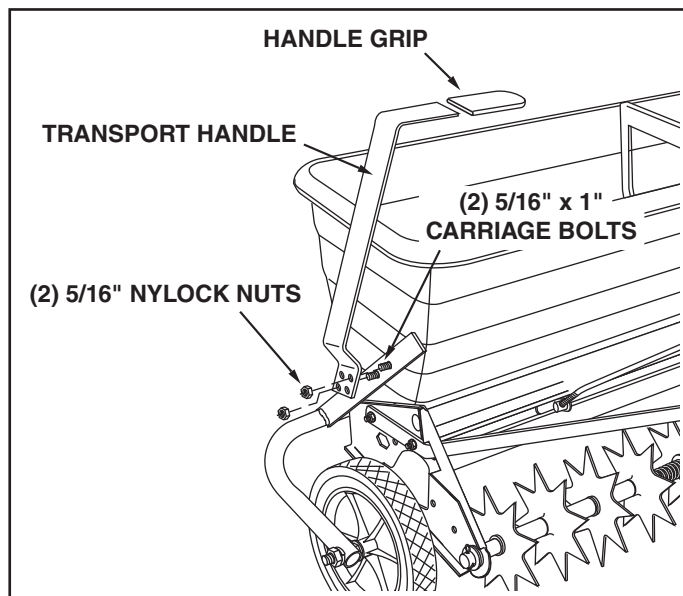

FIGURE 27
43. Attach the transport handle to the lift assembly arm using the two pre-assembled 5/16" x 1" carriage bolts and 5/16" nylock nuts. See figure 27.
44. Assemble the handle grip to the transport handle. See figure 27.